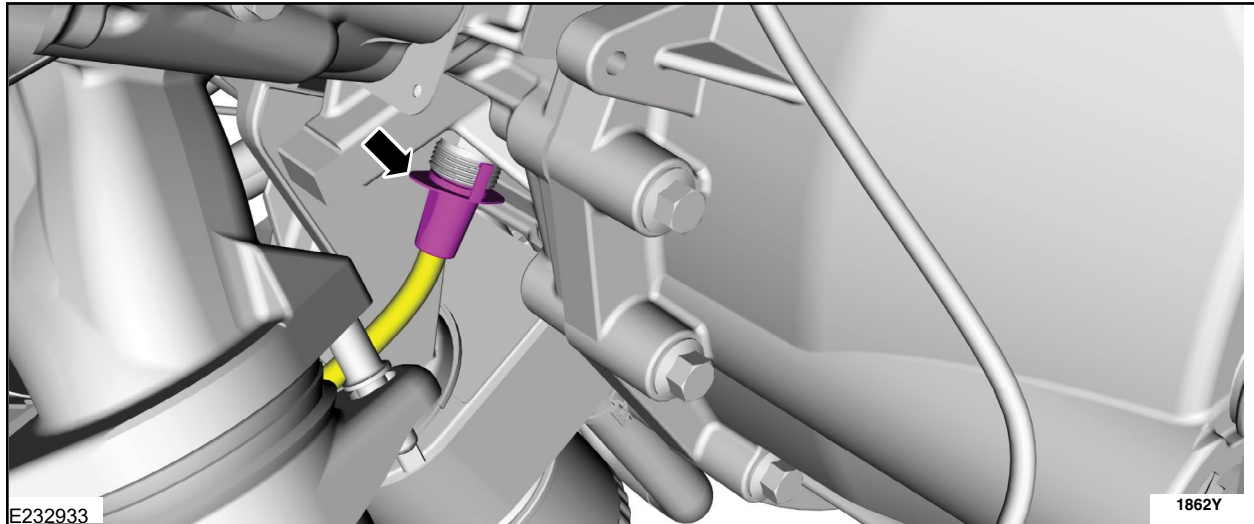

FIGURE 1
1. Disconnect the block heater electrical connector. See Figure 1.
6. Connect the *new* wire assembly to the block heater element. See Figure 1.